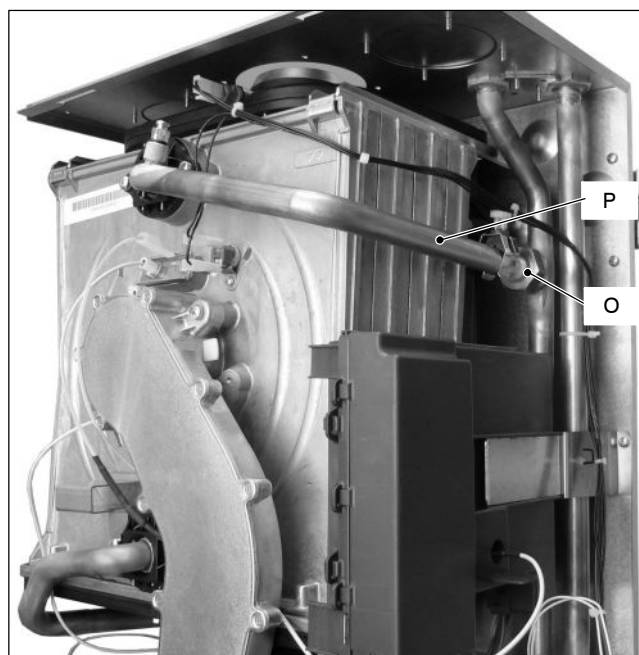

Fig. 5.3
- 16 Loosen the connection *O* and remove the pipe *P* (Fig. 5.3) from the Condensing heat exchanger.